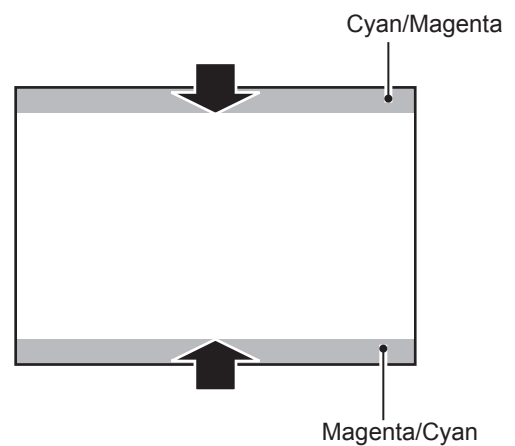

Fig.1-2
2) Insert a slot driver into the slot **D** and turn it to move the image vertically as shown in **Fig.1-2**,